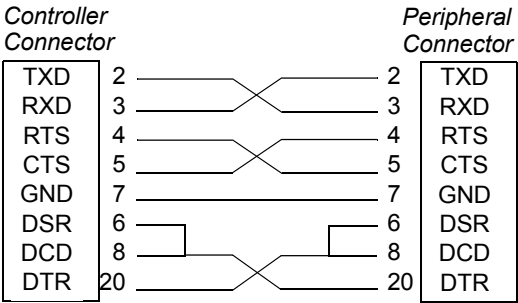

FIGURE 9. Asynchronous Null Modem Cable (RTS Handshaking)
- RTS supports hardware handshaking when the peripheral uses the *Request To Send* (pin 4) signal (see Figure 9).